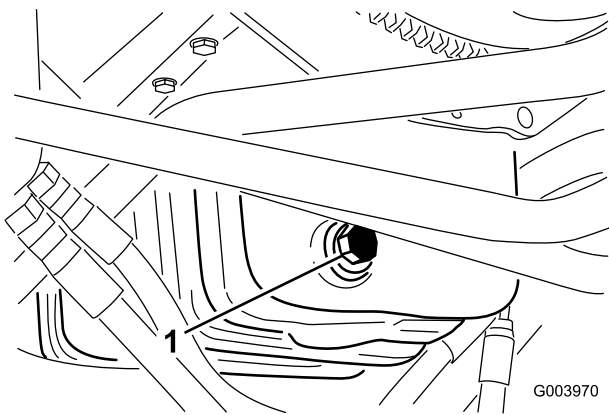

Figure 57
1. Remove the drain plug (Figure 57) and let the oil flow into a drain pan.